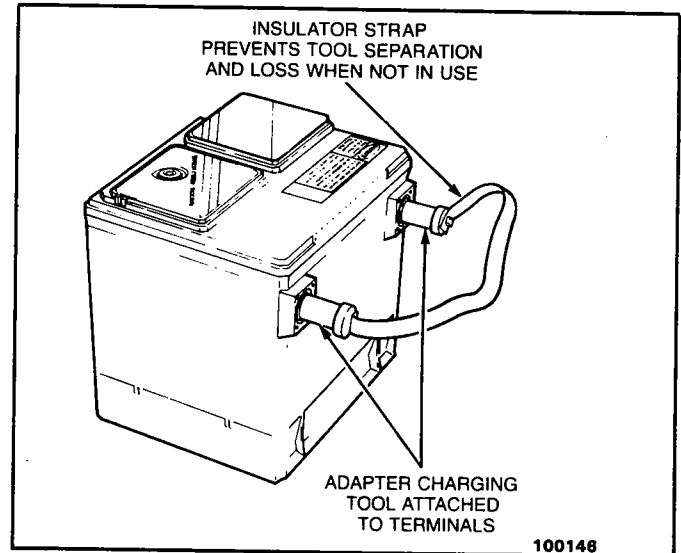

Figure 6D-9 Side Terminal Battery Adapters
Load testing may require use of battery side terminal adapters to insure good connections (see Figure 6D-9). On diesel engine cars, disconnect and test each battery separately.
- c. Wait 15 seconds to let battery recover and apply specified load from Figure 6D-10. Read voltage after 15 seconds, then remove load.